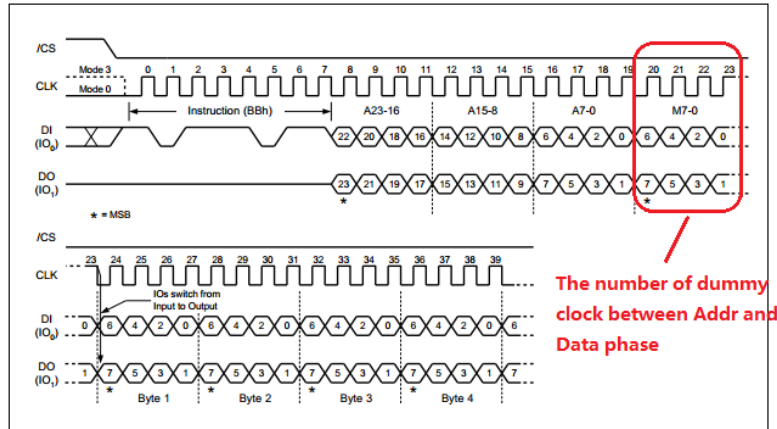

Fig 15-3 Fast read dual I/O instruction sequence
- There are 4 dummy cycles in Read Dual I/O mode, as Fig 15-3 shows.